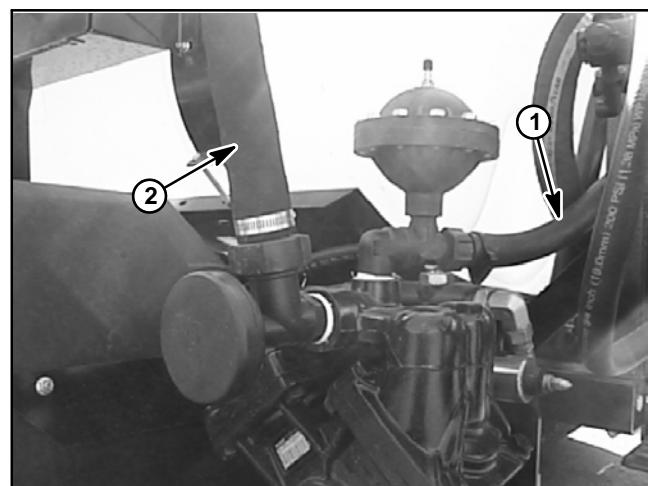
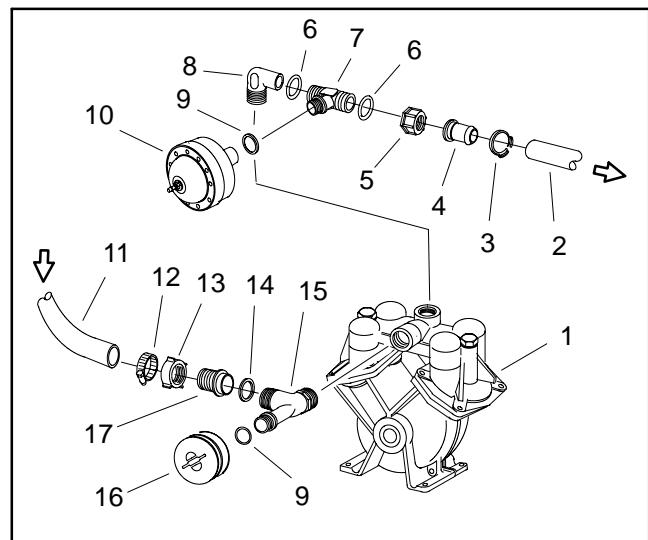

Figure 7
Figure 8
2. Loosen hose clamp that secures suction hose to hose barb (Fig. 7). Pull suction hose from hose barb.
3. Loosen hose clamp that secures pressure hose to hose barb (Fig. 7). Pull pressure hose from hose barb.
4. Remove flange head screw and flange nut that secure front and rear guard plate. Remove four (4) flange nuts that retain guard plates to pump mount bracket. Remove guard plates from machine.
**NOTE:** Machines with serial numbers above 290000400 use two (2) rubber couplings (item 7).
6. Remove four (4) flange head screws and flange nuts that secure pump to pump mount bracket.
9. If needed, remove pressure dampener, tee fitting (pressure), and elbow fitting (pressure) from pump outlet (Fig. 8).
10. If needed, remove suction dampener and tee fitting (suction) from pump inlet (Fig. 8).
2. If removed, install tee fitting (suction) and suction dampener to pump inlet. Orientate tee toward rear of machine (Fig. 8).
3. If removed, install elbow fitting (pressure), tee fitting (pressure), and pressure dampener to pump outlet. Orientate elbow toward rear of machine (Fig. 8).
11. Install pressure and suction hoses to correct barb fittings (Fig. 7). Secure hoses with hose clamps.